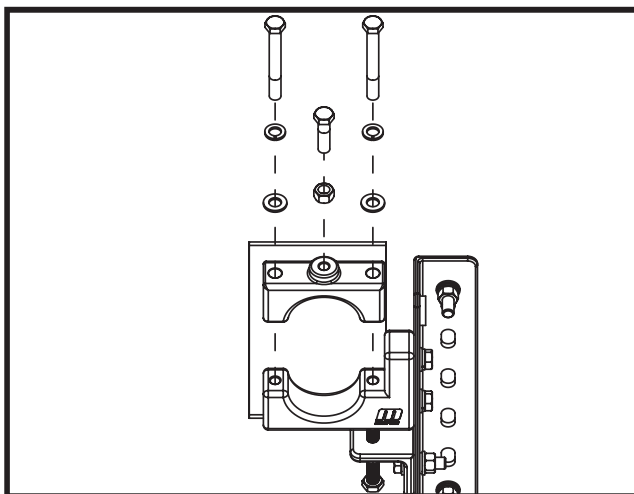

Figure 8. Martin® P2 Secondary Belt Cleaner HD Far Bolt Tensioner Clamp Block Hardware
4. Repeat for far side Clamp Block. (Refer to Figure 8.)